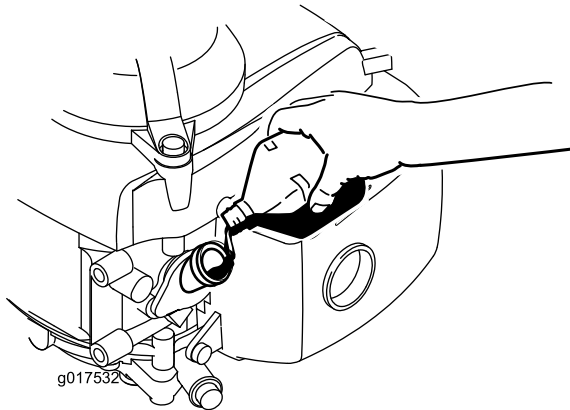

Figure 6
3. **Slowly** pour oil into the oil fill hole, wait 3 minutes, and check the oil level on the dipstick by wiping the dipstick clean and then inserting, **but not screwing in**, the oil fill cap into the hole (Figure 6).